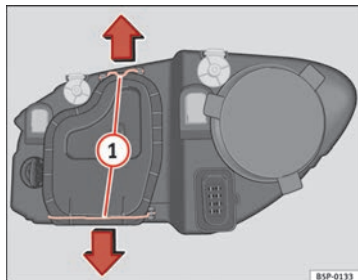

Fig. 190 Dipped beam headlights
- Move the loops ⇒ Fig. 190 ① in the direction of the arrow and remove the cover.